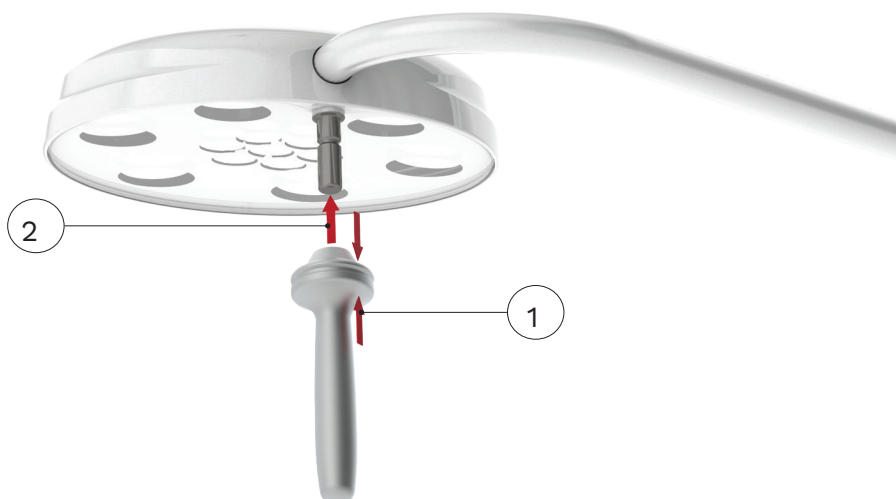

Fig. 19.0
1. Pinch the release mechanism of the handle as shown (Fig.19.0)
2. Remove the handle from the fitting (Fig.19.0).